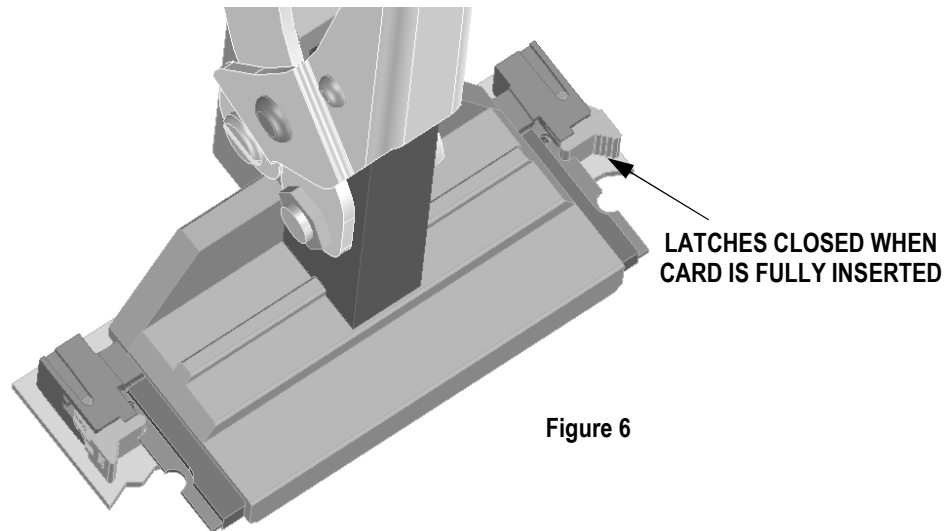

Figure 6
8. When the card is fully inserted the socket latches will be closed on the card. (DO NOT squeeze the tool handles beyond this condition.) See Figure 6.